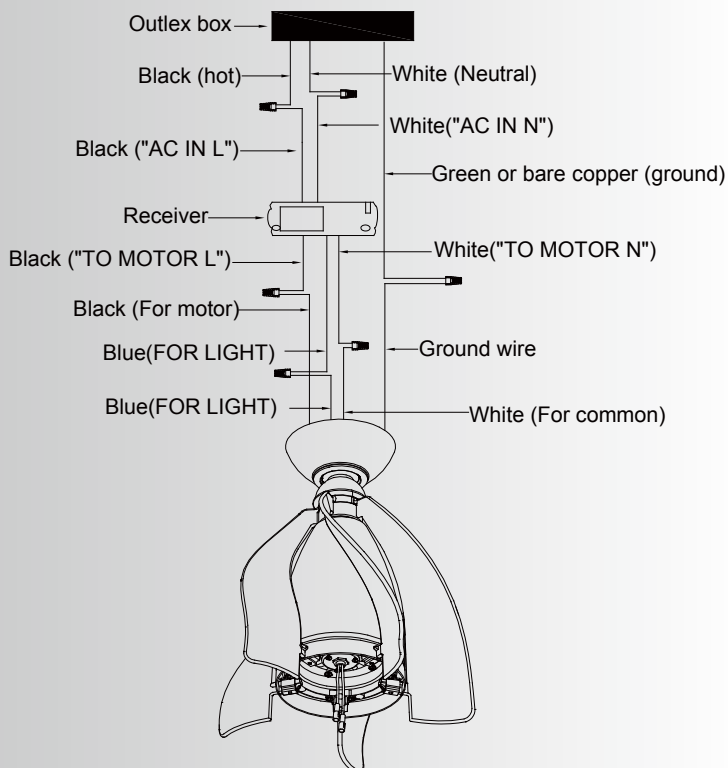

Fig. 17
Step 2. Motor to Receiver Electrical Connections: Connect the BLACK wire from the fan to BLACK wire marked "TO MOTOR L" from the receiver. Connect the WHITE wire from the fan to the WHITE wire marked "TO MOTOR N" from the receiver. Connect the BLUE wire from the fan to the BLUE wire marked "FOR LIGHT " from the receiver. Secure all the wire connections with the plastic wire nuts provided. (Fig. 17)
Step 3. Remote Receiver to Outlet Box Electrical Connections: Connect the BLACK (hot) wire from the ceiling to the BLACK wire marked "AC in L" from the receiver . Connect the WHITE (neutral) wire from the ceiling to the WHITE wire marked " AC in N" from the Receiver . Secure the wire connections with the plastic wire nuts provided . (Fig. 17)
Step 4. If your outlet box has a ground wire (green or bare copper) connect it to the fan ground wires : otherwise connect the hanging bracket ground wire to the mounting bracket. Secure the wire connection with a plastic nut provided. After connecting the wires, spread them apart so that the green and white wires are on one side of the outlet box and black and blue wires are on the other side. (Fig. 17)